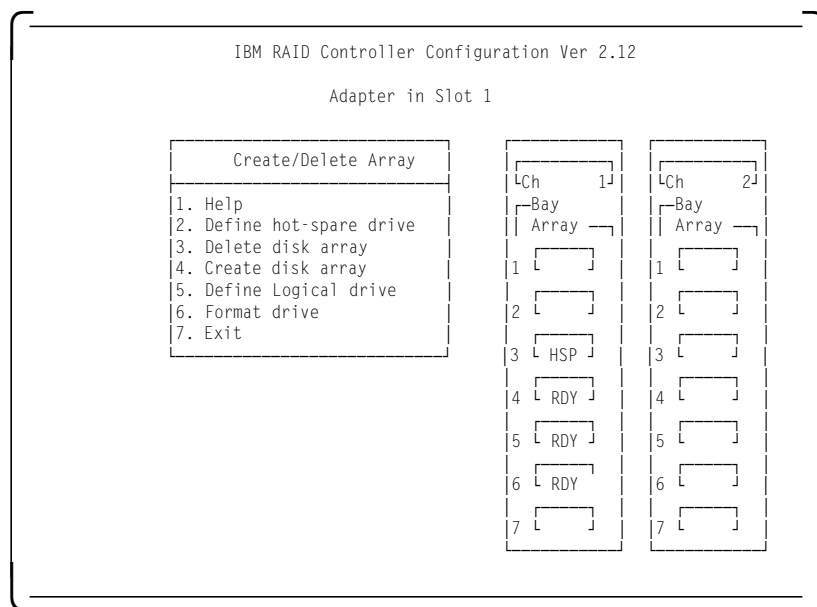

Figure 61. RAID Configuration Program - Hot-Spare Disk Definition
2. Use the up and down arrow keys to select the RDY (ready) drive to be used as a hot-spare and press Enter. The RDY status changes to HSP (hot-spare). Figure 61 shows an example where a hot-spare disk has been defined.